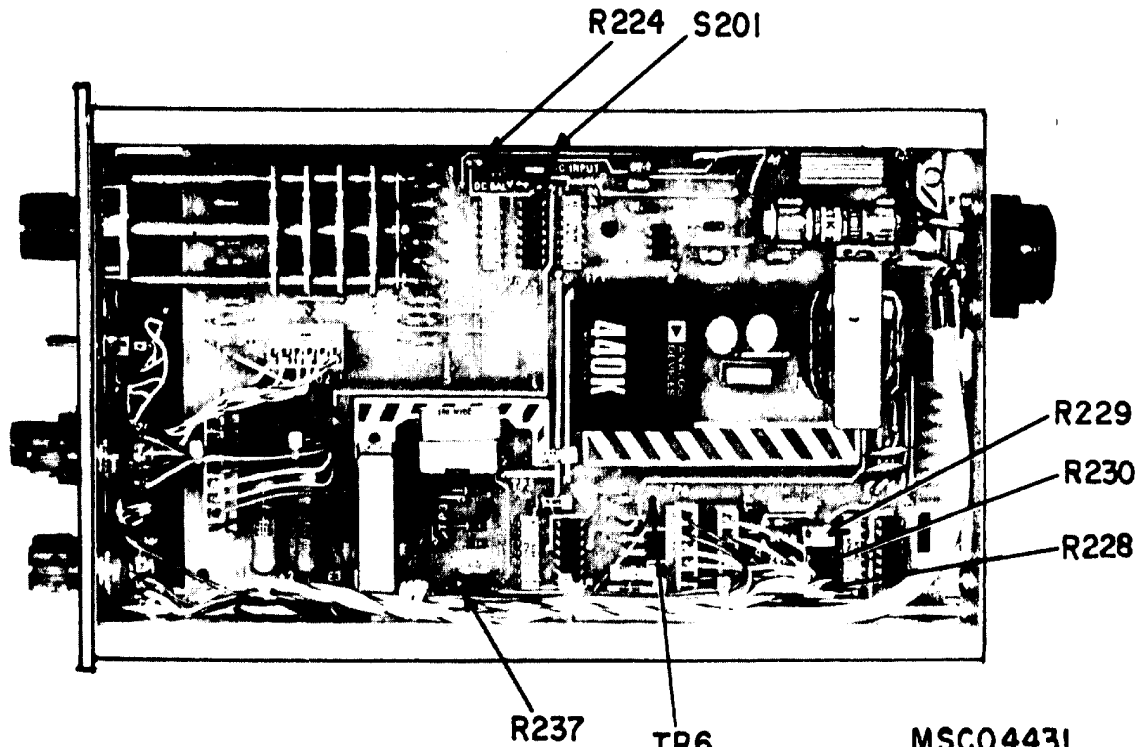

Figure 3. Model 13-4618-10 - right side view.
- d.** Set front panel controls as listed in (1) through (7) below:
- (1) FULL SCALE switch to 1.
- (2) ZERO SUPPRESSION switch OFF.
- (3) ZERO SUPPRESSION control ccw to 0.
- (4) FILTER switch OFF.
- (5) MODE switch to X1 VOLTS.
- (6) SENSITIVITY control fully cw.
- (7) RANGE switch to X1.
- e.** Set DC INPUT switch S-201 to left (fig. 3).
- (1) Disconnect dc voltage standard.
- (2) Set RANGE switch to X.1.
- (3) Connect digital voltmeter (A4) negative lead to TP7 and positive lead to TP6 (fig. 3) on TI, using two leads (B4).
- (4) Turn SENSITIVITY control on front panel fully ccw. Adjust R230 ZERO (fig. 3) for 0 \pm .005 V indication on digital voltmeter.
- (5) Turn SENSITIVITY control on front panel fully cw, set S201 to DC INPUT (right) (fig. 3), and short pins 1 and 2 of 101, using two leads (B5). Adjust R237 OFFSET (fig. 3) for 0 \pm .005 V indication on digital voltmeter.
- (6) Set RANGE switch to X1 on front panel and set S201 to DC BAL (left) (fig. 3).
- (7) Connect dc voltage standard to pins 1 and 2 of J-101, using two leads (B5). Set dc voltage standard for 1.000 output. Record digital voltmeter indication.
- (8) Reverse connection on dc voltage standard. If digital voltmeter does not indicate voltage recorded in (7) above, adjust R224 DC BAL (fig. 3) for same reading within \pm 0.002 V. Repeat (7) and (8) above until no further adjustment is needed (R).
- (9) Adjust R229 SPAN (fig. 3) for digital voltmeter reading of 5 \pm 0.005 V (R).
- (10) Adjust ZERO SUPPRESSION control cw to 100 percent, set ZERO SUPPRESSION switch ON, and RANGE switch to X.1. Adjust R228 SUP ADJ (fig. 3) for 0 \pm .005V indication on digital voltmeter.
- (11) Repeat (1) through (10) above to eliminate interaction.